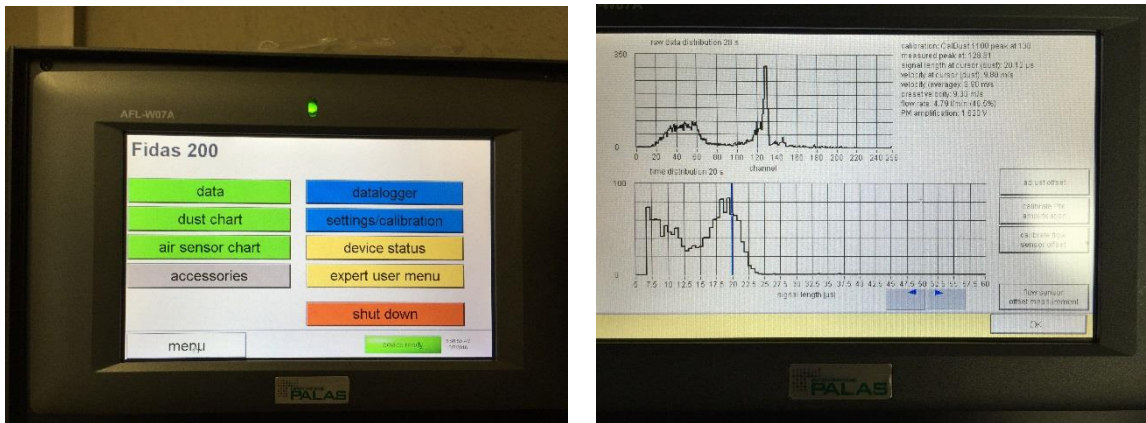

Figure 25 - Fidas Settings/Calibration Screen
1. Press "settings/calibration" on the front screen of the instrument (see Figure 25).